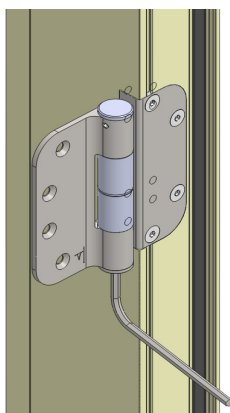
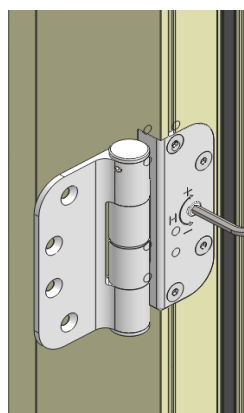

Figure B1:
Figure B2:
1. It is recommended that vertical (Figure B1) and horizontal (Figure B2) adjustments be performed with the door in the opened position.